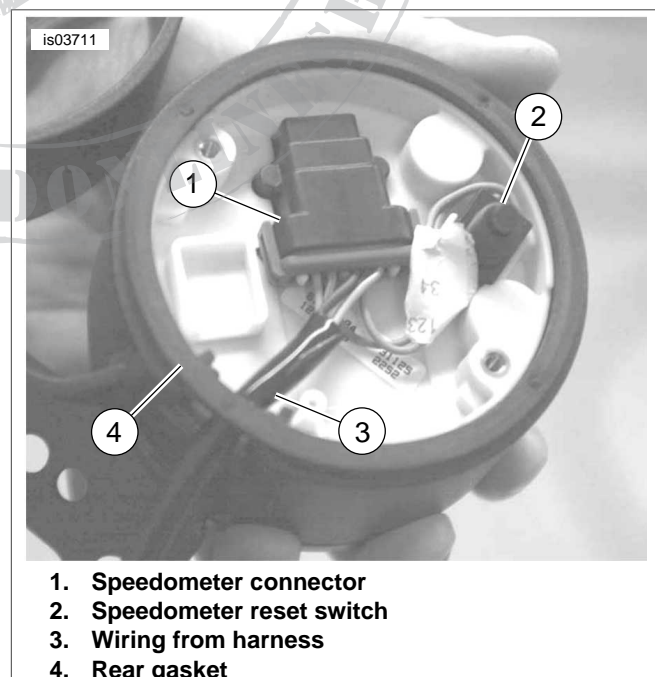

Figure 5. Speedometer Component Installation
- See Figure 5. Obtain new speedometer/tachometer harness from kit. Place rear gasket in position and align gasket tabs. Insert speedometer wiring and connector between gasket (4) and speedometer making sure wiring rests in wire guide. Connect the speedometer connector (1). Work the rear gasket into space between speedometer and bracket by pushing speedometer against one side of bracket while pushing gasket into position at the opposite side.